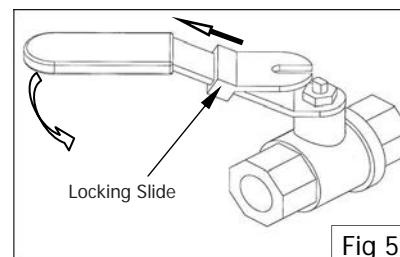

Fig 5
- b. While holding locking slide in withdrawn position, rotate handle anticlockwise (Fig 5) to open valve.